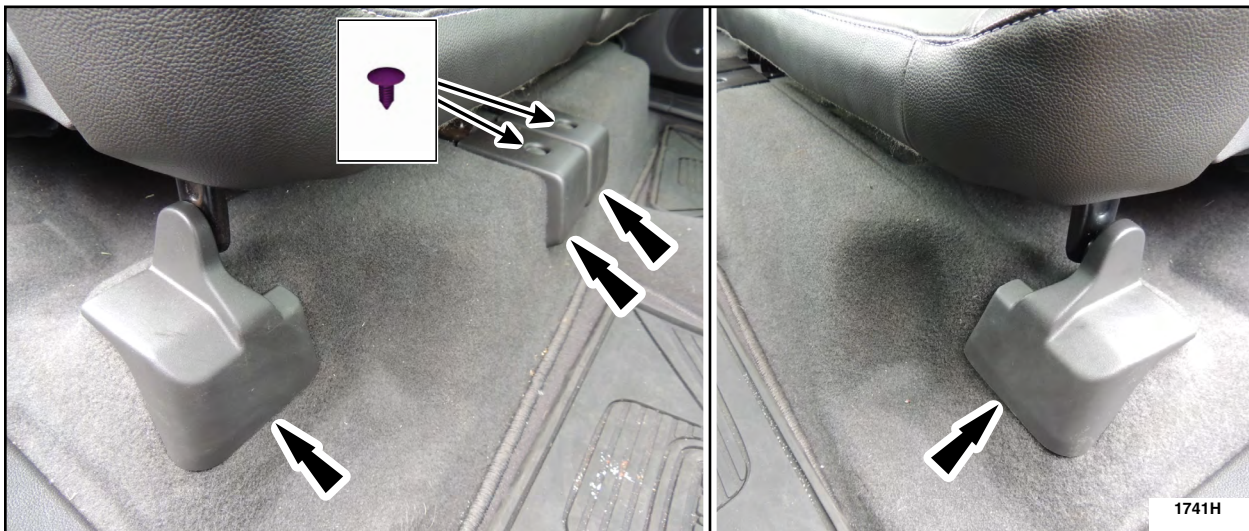

FIGURE 3
1. Remove the RH and LH rear seat cushion bolt covers. See Figure 3.
5. Reinstall the RH and LH rear seat cushion bolt covers. See Figure 3.